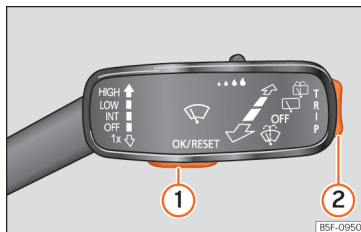

Fig. 126 Windscreen wipers lever: control buttons.
As long as a priority 1 » page 110 warning is active, it will not be possible to access any menu. Some warnings can be confirmed and hidden with the button » Fig. 126 ①.